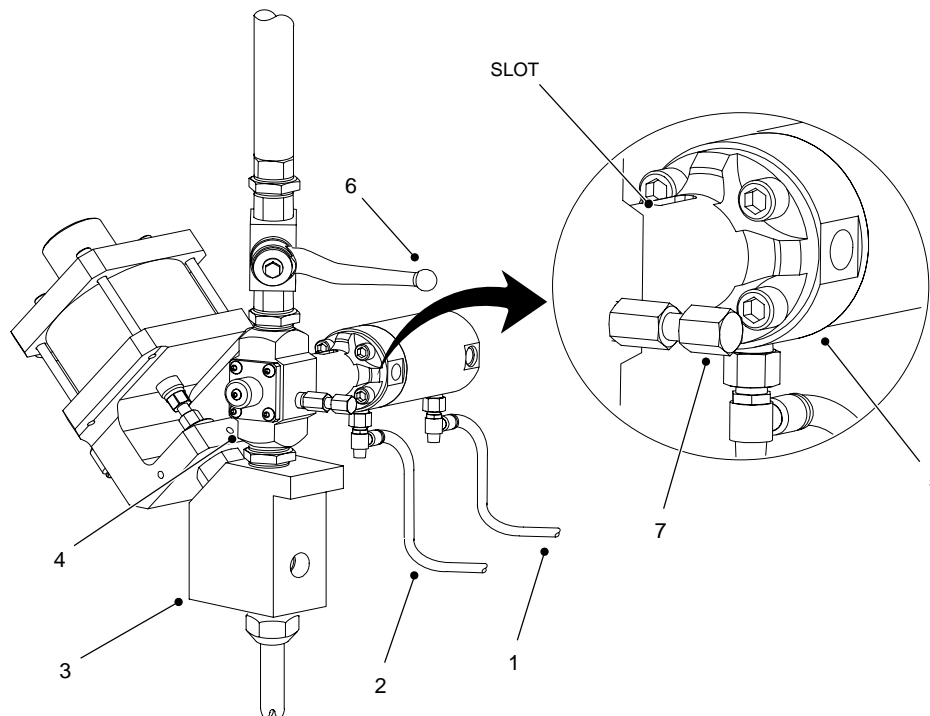

Figure 3 Calibrating the System
2. See Figure 3. Apply air to the retract port (2).
3. Close the ball valve (6). Open the CE20 gun (3) to purge material pressure. Wait at least 30 seconds before injecting the first air bubble.
3. See Figure 3. Apply air to the retract port (2).
4. Close the ball valve directly upstream from the CE20 gun (3).
5. Open the CE20 gun (3) to purge material pressure. Wait at least 30 seconds before injecting the first air bubble.
6. Apply air to the extend port (1). Look into the slot on the air injector (5). Make sure that the red ring completely passes through the slot. Leave the cylinder in this position for 10 seconds, then apply air to the retract port (2).